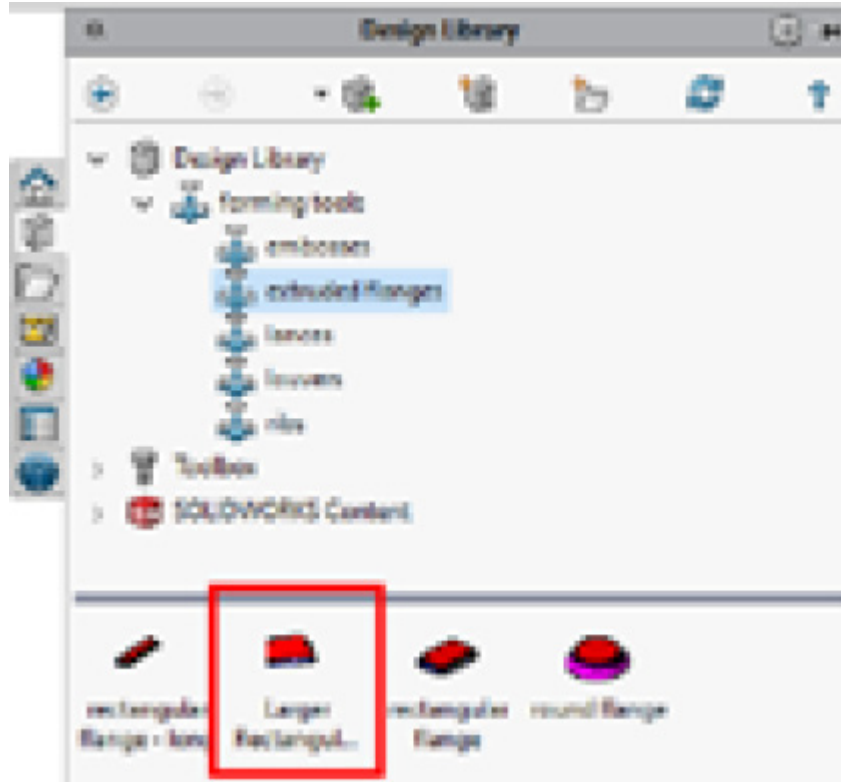

Figure 10.11: The saved Forming Tool now appears with the other tools
9. Expand the **Task Pane** and note that the new Forming Tool—**Larger Rectangular Flange**—now appears with the other Forming Tools, as illustrated in *Figure 10.11*. This tool can then be dragged into the model and used in the same way as any other Forming